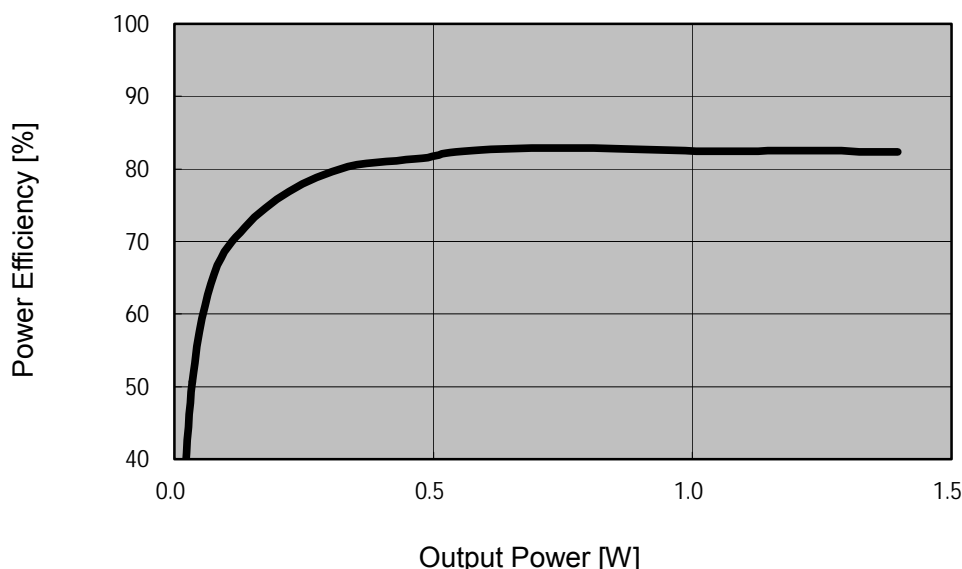

Figure 6 Power Efficiency vs. Output Power
The power efficiency η [%] is calculated with the formula (9), where P_D [W] is the power consumption of the IC itself, P_C [W] is the power consumption of the coil and P_O [W] is the output power. Then, 83% is given on condition just described. Figure 6 shows the typical characteristic of "Power Efficiency vs. Output Power".